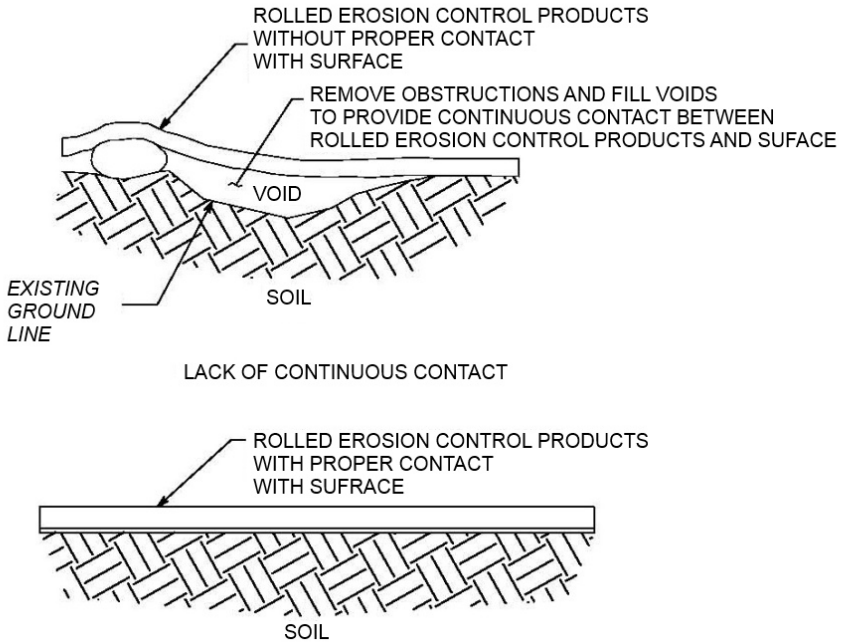

Figure 1: Blanket/Mat Orientation
- Place ECB after slope, swale, or channel has been graded and dressed to define flow area and after seed has been applied per Section **ST.1.SEED**. See **Figure 1** for typical blanket orientation for various applications.
- Use appropriate anchoring devices and follow installation instructions from manufacturer. If installation instructions are not provided by the manufacturer, refer to **Figures 1, 2, 3, and 4** for typical guidance.
- Install TRMs per manufacturer's instructions. If installation instructions are not provided by the manufacturer, refer to **Figures 1, 2, 3, and 4** in Section **ST.6.ECB** for typical guidance.